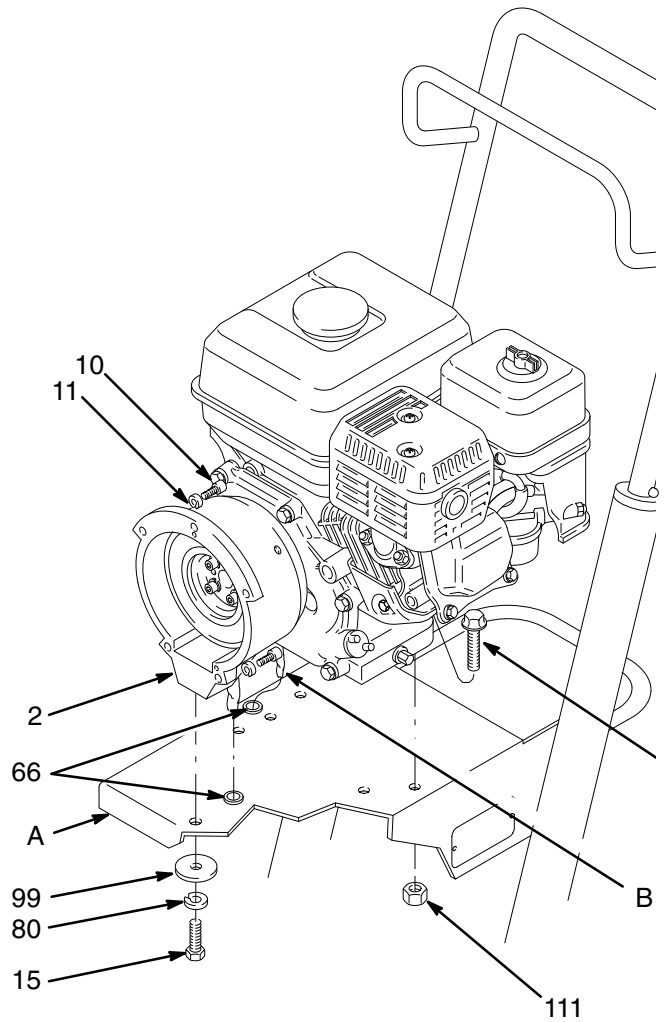

Fig. 12
2. Still working under the mounting plate, remove the two locknuts (111) and then pull the screws (14) out of the base of the engine. Disconnect the red wire from the engine lead (B). Disconnect the black and white wires from the field. For the upright cart only, loosen the clamp (97). Pull the wires carefully through the grommets (66) before removing the engine. See Fig. 12 and 13.